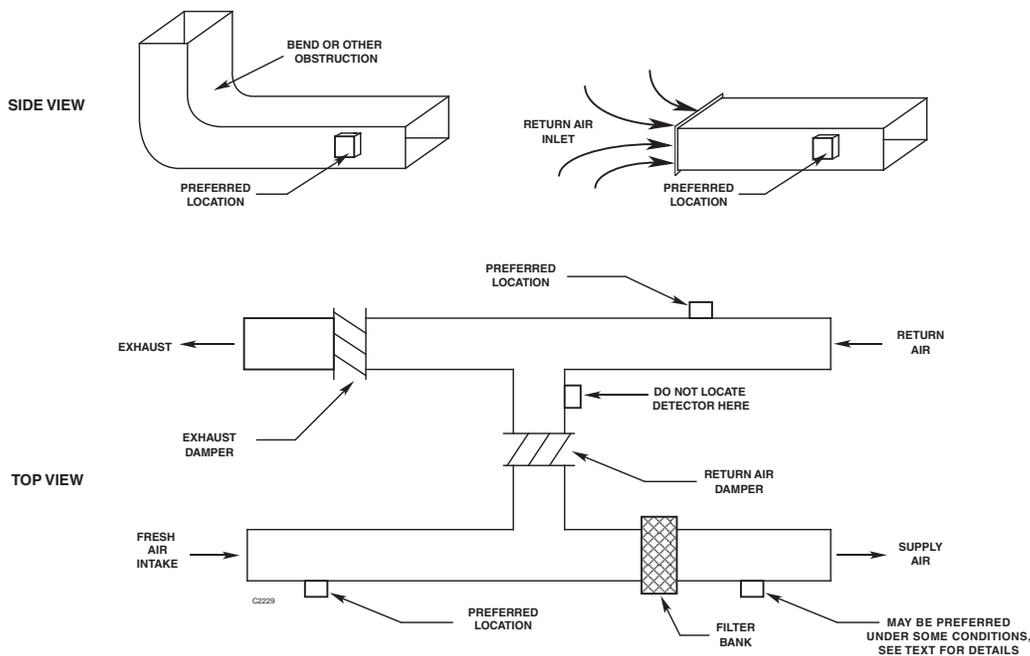

Figure 6—Detector Placement
1. PIRDUCT should be installed downstream from bends, duct openings, or deflection plates. These locations provide fairly uniform, non-turbulent airflow, and are homogenous with respect to air/gas mixing. See Figure 6.